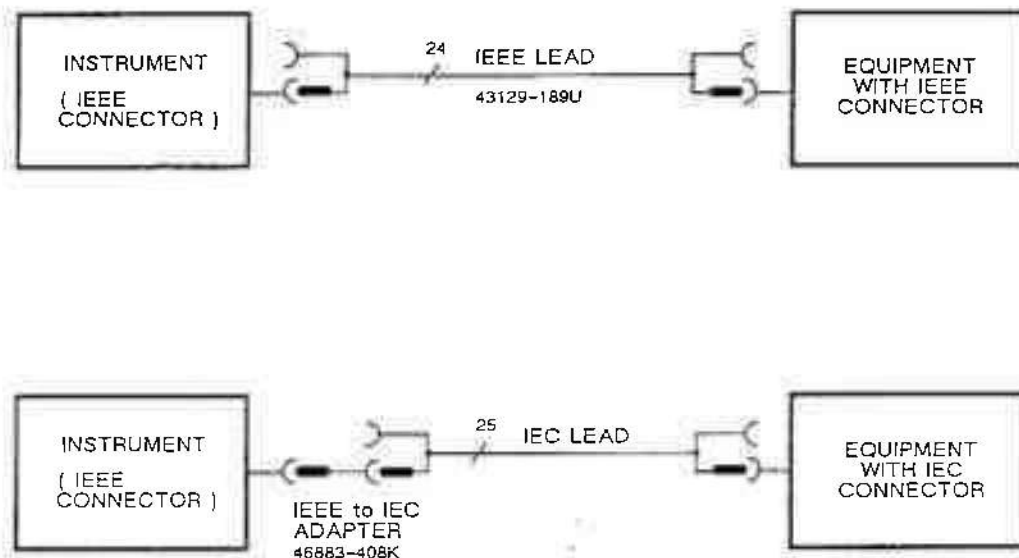

Fig. 3 IEEE to IEC conversion
12. An optional IEEE to IEC adapter is also available (ref. Chap 1 'Accessories') for interfacing with systems using a 25-way bus connector to IEC Recommendation 625. The method of use is shown in Fig. 3.